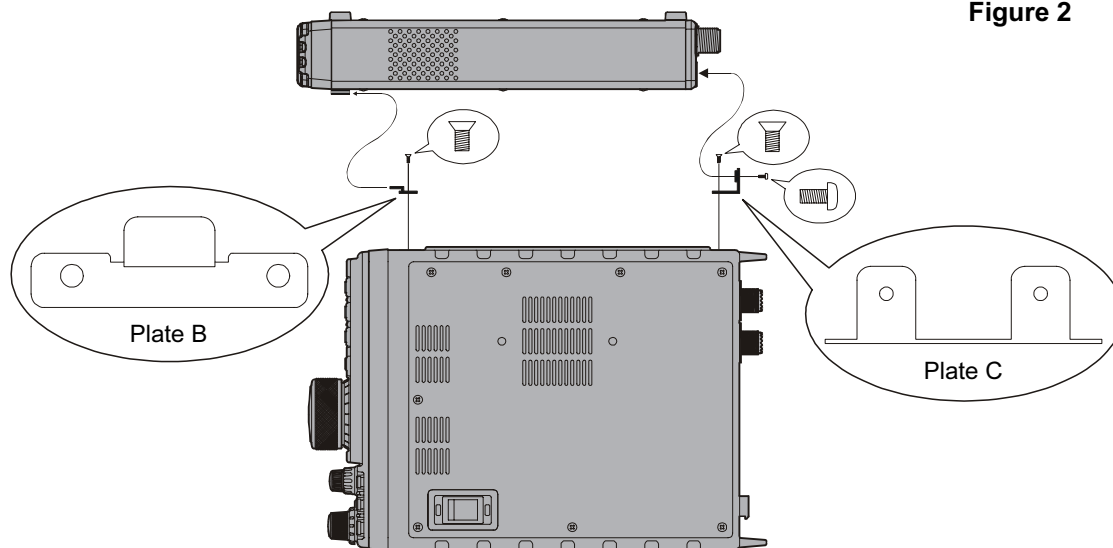

Figure 3
3. Remove the four rubber lugs and their four screws (**Figure 2**), then position mounting plates "B" and "C" so that their holes align with those on the FT-897D, and secure using the supplied screws (**Figure 3**).
4. To install the FC-30, position the FC-30 so that the mounting plate "A" on the side fits into the mounting plate "B" on the FT-897D (**Figure 3**), then screw the mounting plate "C" (on the FT-897D) to the FC-30 using the supplied screws (**Figure 1**).